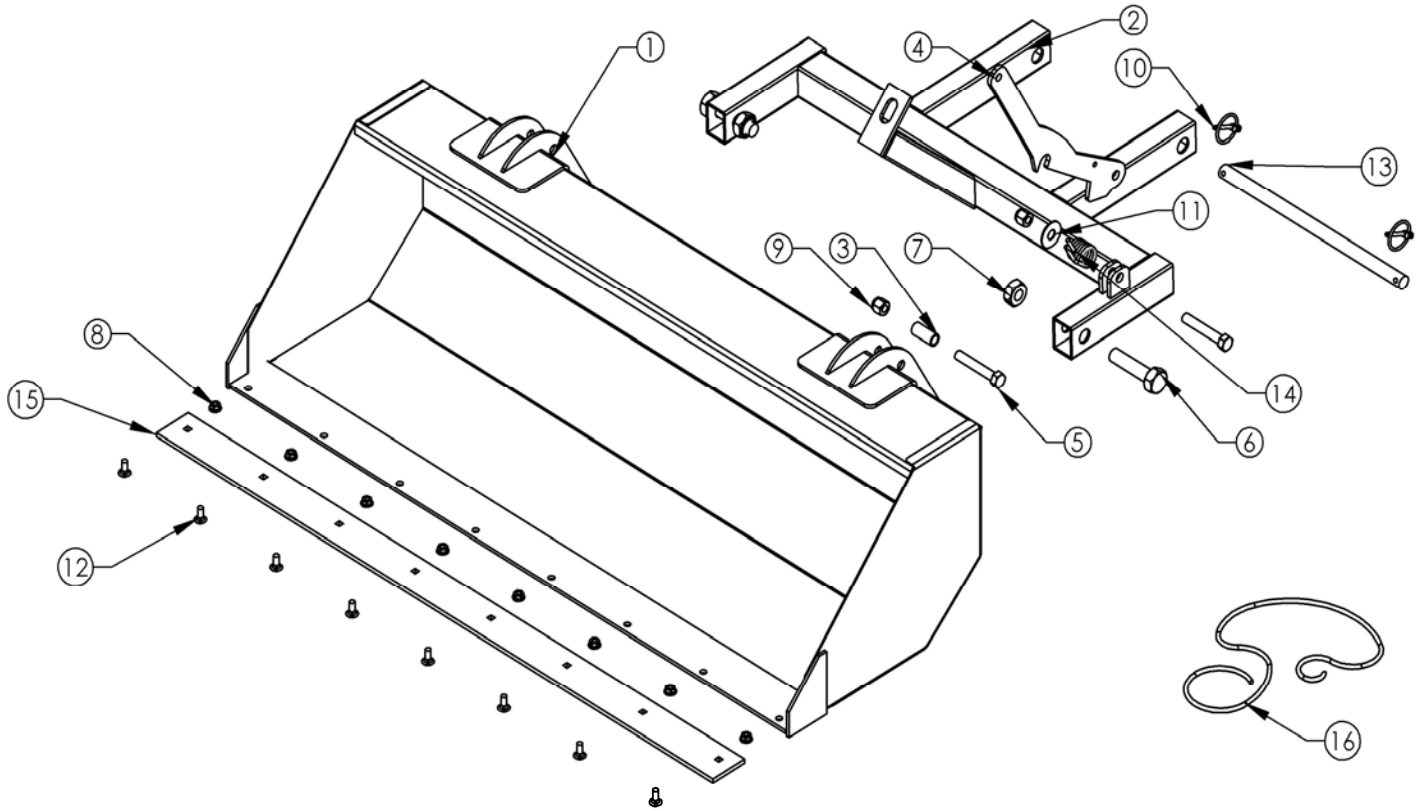

FIGURE 1
REFER TO FIGURE 1 WHILE INSTALLING THE BUCKET ATTACHMENT
1. BEGIN BY LAYING OUT THE PARTS SIMILAR TO FIGURE 1
2. ATTACH THE BUCKET HITCH(2) TO THE BUCKET(1) USING BOLTS(6) AND NUTS(7).
3. INSTALL THE LATCH REST BOLT(5), ROLLER BUSHING(3) AND NUT(9) TO THE BUCKET.
4. PLACE THE BUCKET LATCH(4) IN THE UPRIGHT TABS ON THE BUCKET HITCH(2) USING BOLT(5) TO HOLD IT THERE.
5. INSERT THE BENT PART OF THE SPRING(14) INTO THE BUCKET LATCH(4) ON THE SIDE FACING THE CENTER OF THE BUCKET HITCH(2) AND OVER THE BOLT(5) GOING THROUGH THE LATCH. THE LONG STRAIGHT PART OF THE SPRING WILL REST ON TOP OF THE BUCKET HITCH(2).
6. NEXT, PLACE THE WASHER(11) ON BOLT(5) ENDING WITH NUT(9), TIGHTEN THE ASSEMBLY UNTIL THE NUT IS ALL THE WAY ON THE BOLT, ALLOWING LATCH (4) TO ROTATE FREELY.
8. INSERT THE PLOW MOUNT PIN(13) THROUGH THE BUCKET HITCH AND THE ACCESSORY MOUNT.
9. SECURE THE PIN WITH THE CLICK PINS(10) ON EACH END OF THE MOUNT PIN.
10. TIE THE RED TRIP RELEASE ROPE(16) TO THE TOP OF THE BUCKET LATCH(4).